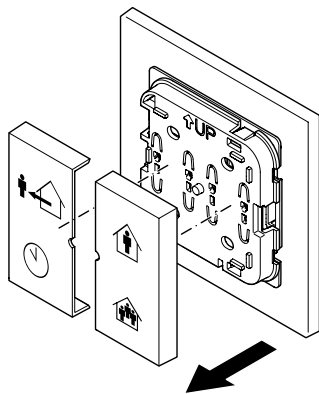

Figure 1 - pull the buttons from the unit
1. Pull the buttons from the unit (fig. 1)